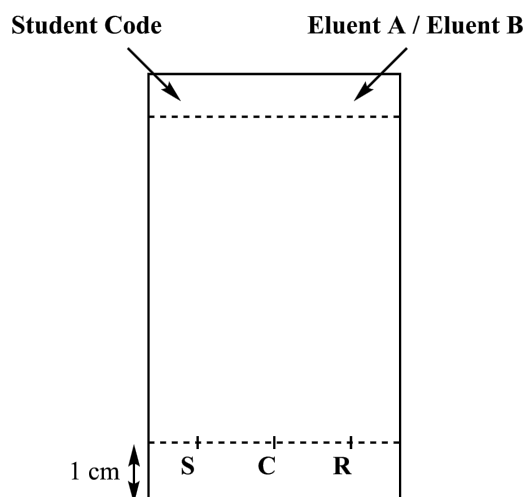

Figure 3. TLC plate preparation
2. Prepare your samples: You are provided a sample of 4-nitrobenzaldehyde in an amber glass vial labeled **TLC standard** (referred to as **S** on the TLC plate in Figure 3). You have also kept a small sample of your crude product (vial **C**) and your recrystallized product (vial **R**) in two other amber glass vials. **Add** about 1 mL of ethanol in each of the vials in order to dissolve the samples.
3. Prepare your TLC plate: Use a pencil to carefully **draw** the start line (1 cm above the bottom of the plate) and **mark** the positions for the 3 samples. **Label** them **S** (starting material), **C** (crude product) and **R** (recrystallized product), as shown in Figure 3. On the top left of the plate, **write** your **Student Code**. On the top right of the plate, **write** the eluent you use (first **Eluent A**, then **Eluent B**). **Spot** the three samples on the plate, using capillary spotters.